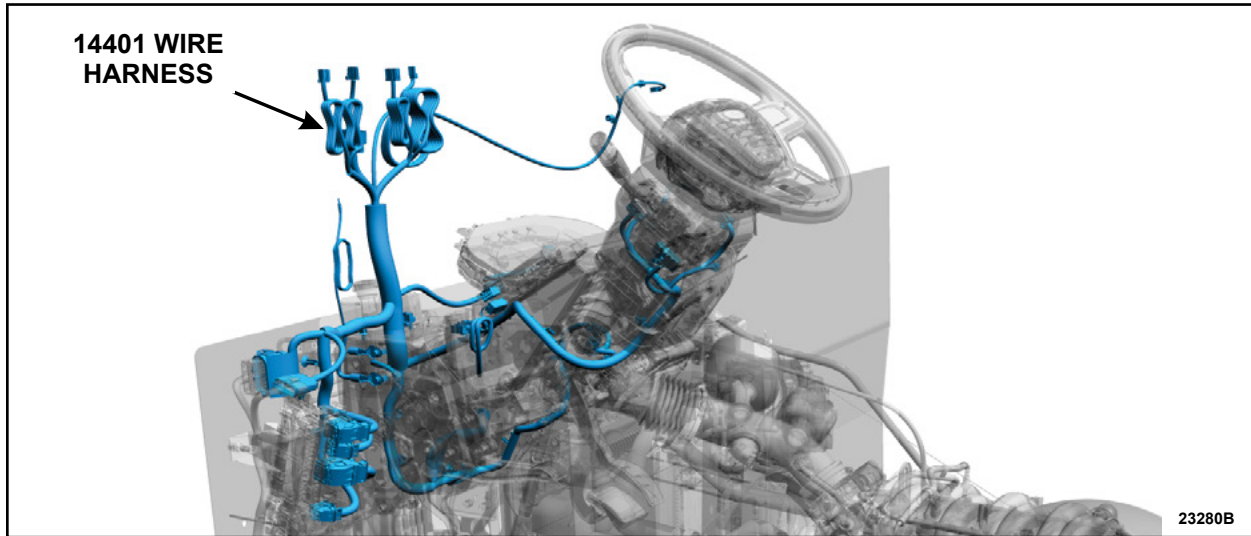

FIGURE 5
15. Replace the 14401 wire harness. See Figure 5.